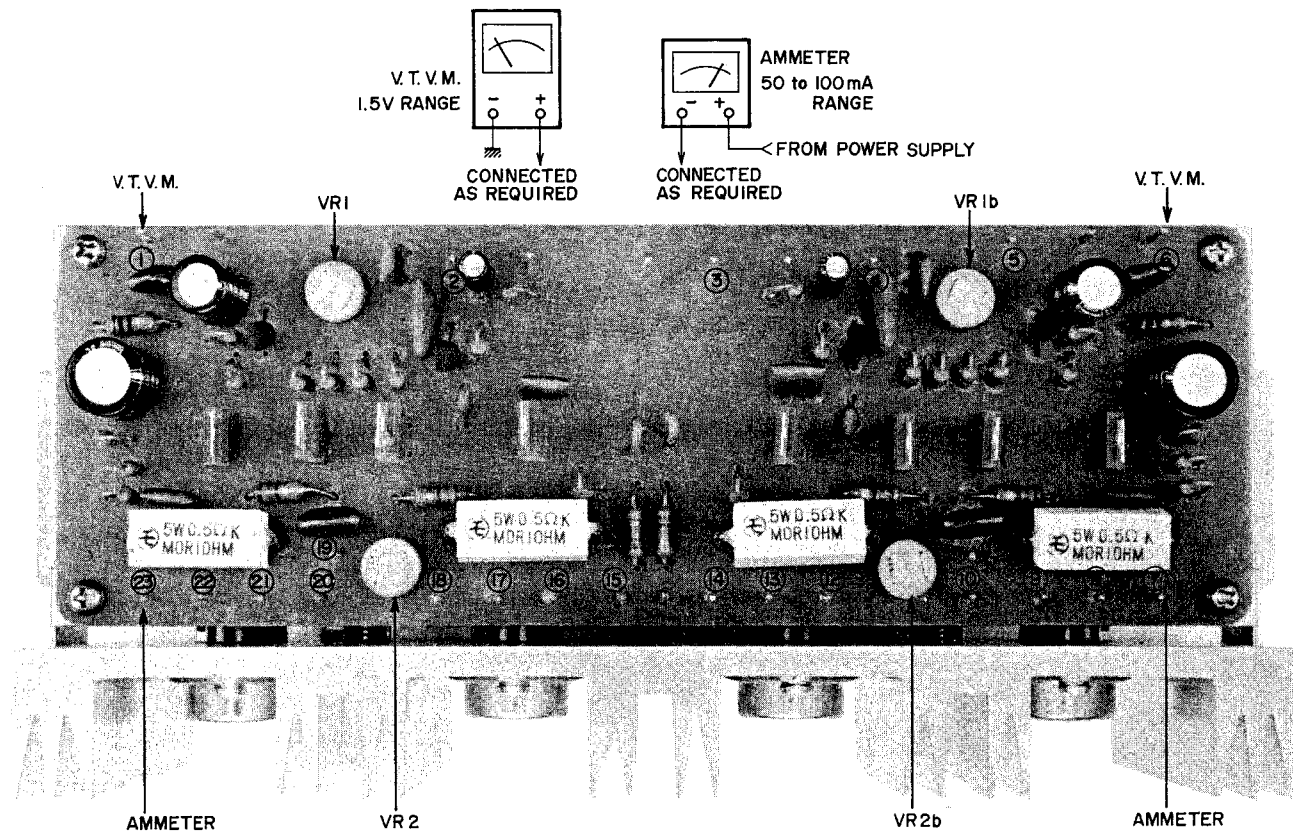

Fig. 23 POWER AMP. P.C. BOARD 94-5013
- 1) Disconnect the lead wires (Red) of terminals (7), (23) of Power Amp. P.C. Board from power supply.
- 3) Adjust Power Amp. P.C. Board semi-fixed resistors VR2 100B (Left), and VR2b 100B (Right) shown in Fig. 23 to obtain a 40 mA ampere meter indication on both left and right channels.
## 2. ZERO ELECTRICAL POTENTIAL ADJUSTMENT (Refer to Fig. 23)
- 1) Set V.T.V.M. to 1.5V D.C. range and connect between terminals (1), (6) of Power Amp. P.C. Board and ground.
- 2) Adjust semi-fixed resistors VR1 300B (Left) and VR1b 300B (Right) shown in Fig. 23 to obtain a "0" V V.T.V.M. indication.